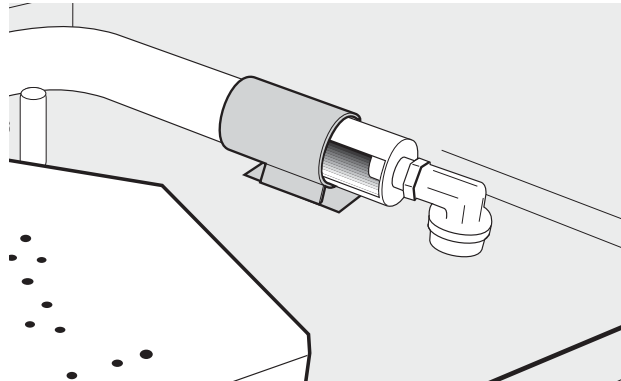

Figure 33. Adjust Air Shutter as appropriate. Fully open position is shown here. Slide shutter forward to close.
6. Adjust the Air Shutter: See fig. 33.